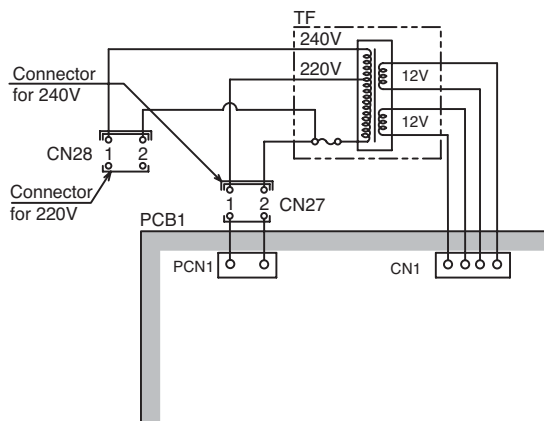

Fig. 7.1 Electrical Wiring Diagram of Transformer (TF)
In case that the power source for indoor unit is 220V (nominal voltage), change CN27 (connector) to CN28 of transformer (TF) in the electrical control box as shown in Fig. 7.1.